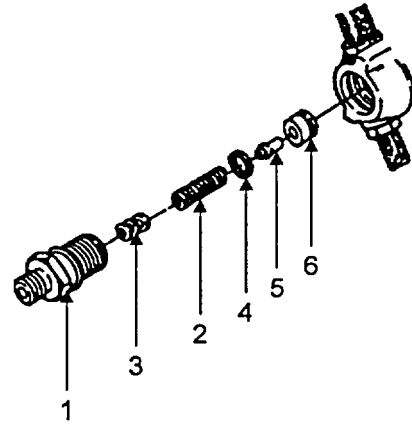
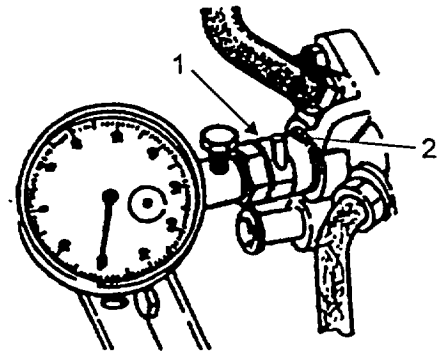

FIGURE 5-5. DELIVERY VALVE HOLDER
FIGURE 5-6. FUEL PUMP AND SPILL DEVICE
g. Unscrew delivery valve holder (Figure 5-5, Item 1) and remove spring (2), filling piece with shims (3), copper washer (4), delivery valve (5), and valve body (6).
h. Insert copper washer (4) and delivery valve body (6) only into spill device 66503001.
i. Thread spill device 66503001 (Figure 5-6, Item 1) into injection pump with spill pipe (2) in the up position, and then secure in place.